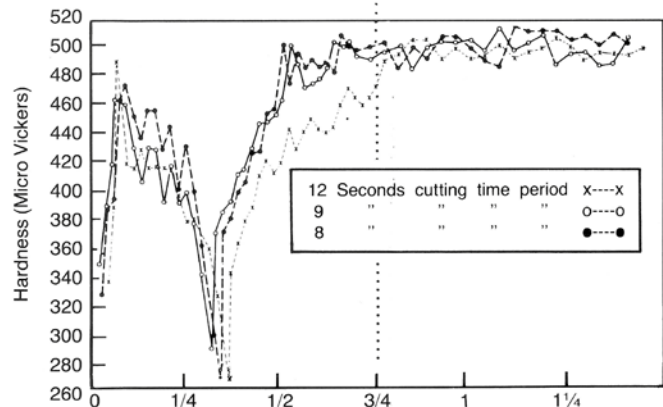

Figure 1 Distance from cut section (inches)
- Years of experience and lab tests have shown that heat from cutting torch greatly affects strand hardness. (Figure 1)